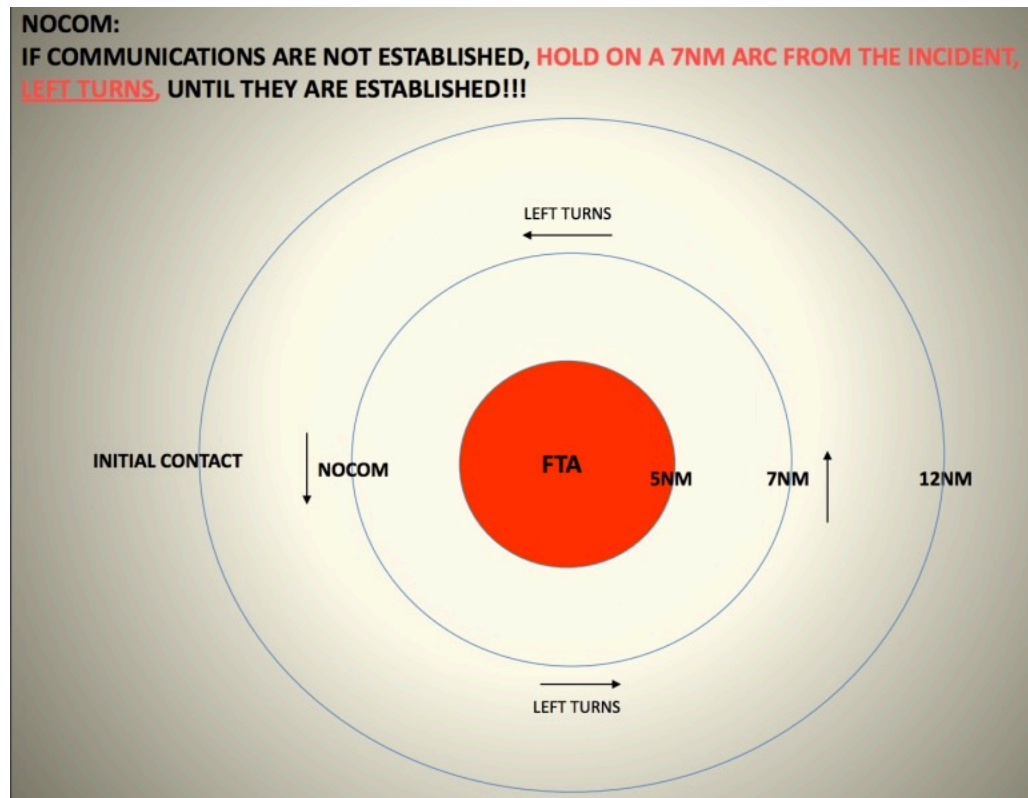

Figure 8-2
- i. At 12 nautical miles (NM) from the incident, communication efforts begin.
- iii. Normal procedure is to remain clear of the 7 NM circle in a left turn orbit at altitude appropriate for VFR operations until contact established. (See Figure 8-2)